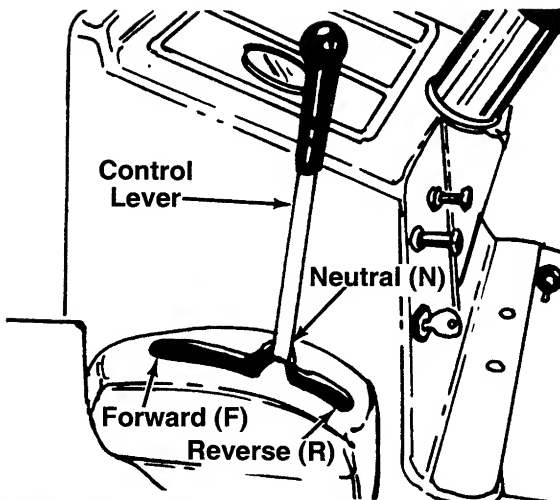

FIGURE 13.
The brake pedal is located on the right side of the tractor. Depressing the brake pedal operates the brake. It is used for emergency stopping only. When you depress the brake pedal, the control lever will return close to the NEUTRAL position. The control lever is used for normal stopping. See figure 13.
The control lever is used to regulate the ground speed of the tractor. Moving the control lever to its extreme position makes the tractor travel faster. Moving the control lever forward (F) moves the tractor forward. Moving the control lever backwards (R) reverses the tractor. See figure 13.
If the hydrostatic control lever does not return to the neutral notch on the hydrostatic control lever guide when the brake pedal is depressed (see figure 13) make the following adjustment: